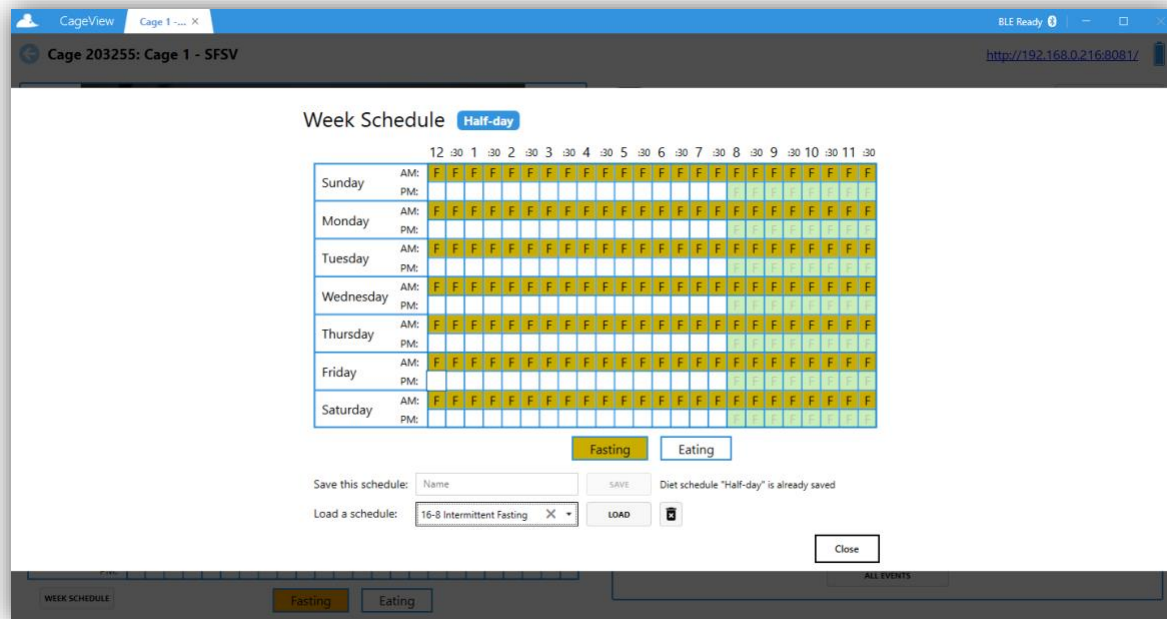

Figure 21. Week schedule dialogue - load preview
5.2.8. First, the diet from the presented list should be chosen to load a previously saved diet schedule. After selecting a diet schedule from the list, the interface will show a preview (as shown in **Figure 21**) with a different color fading back and forth on top of the current diet schedule to identify the differences and choose the desired schedule more easily.